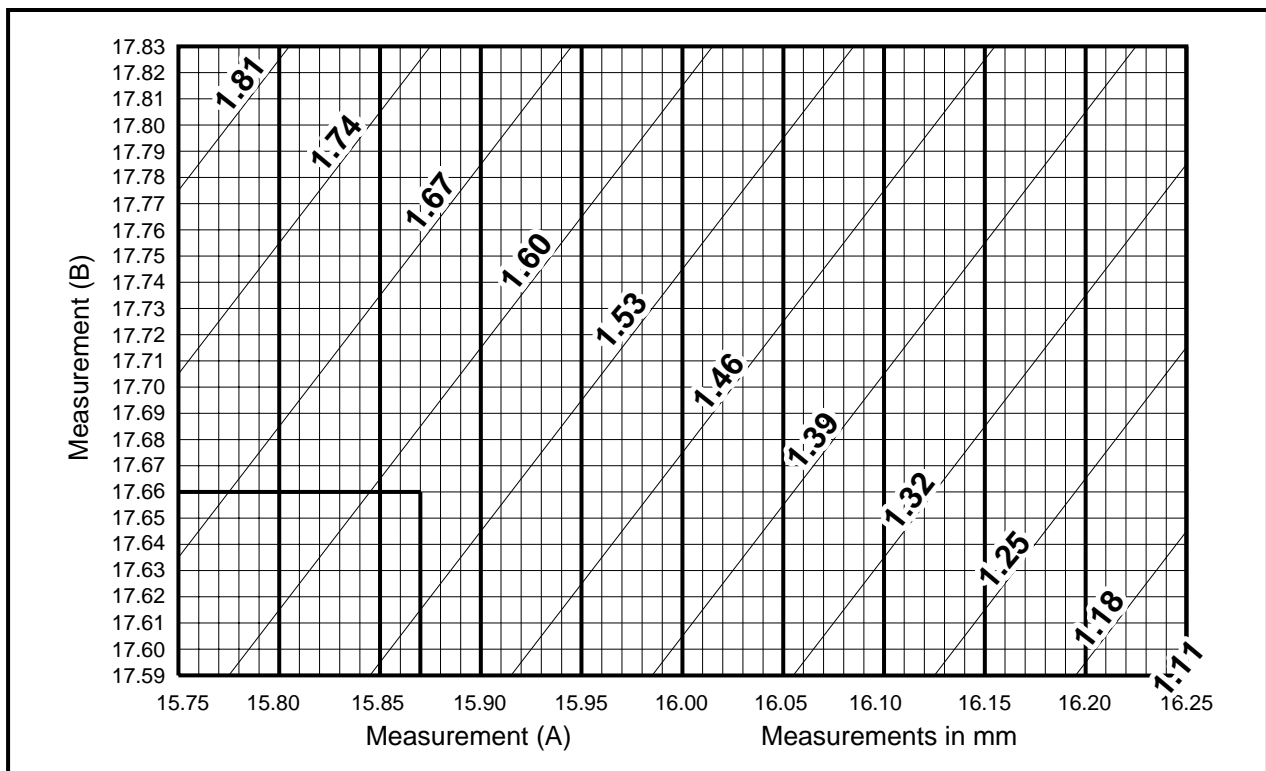

Figure 13-100 Crankshaft Shim Table
3. Locate the measurements on the Crankshaft Shim Table. Follow lines to where the recorded measurements intersect (**Figure 13-100, Page 13-45**).
4. Choose the next smaller shim from the table. Example: Measurement A is 15.87 mm and B is 17.66 mm. The correct crankshaft shim is 1.53 mm (**Figure 13-100, Page 13-45**). See following **NOTE**.